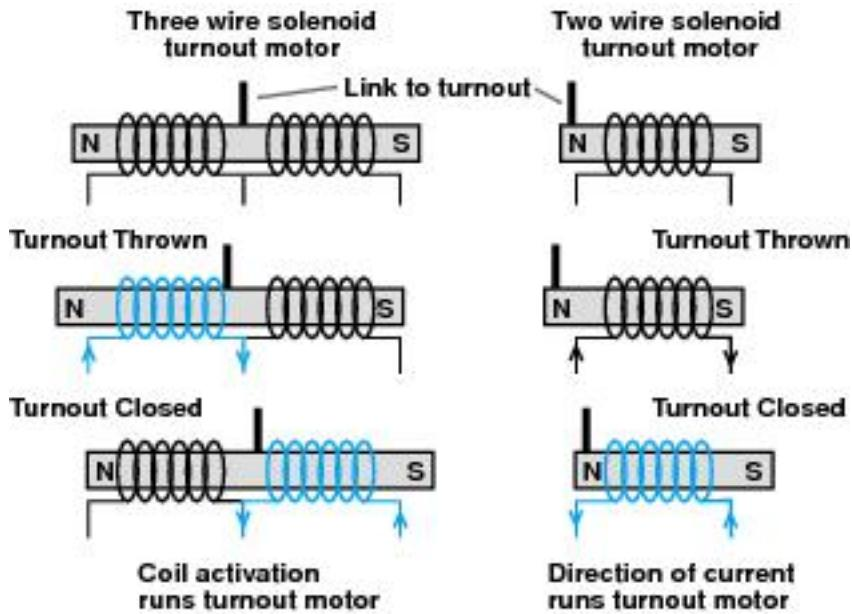

Figure 4-34: Solenoid turnout motors
**Figure 4-34** shows how these two types of solenoid motors work. A solenoid motor requires power only when it is changing state although, at that time its power draw is quite high.